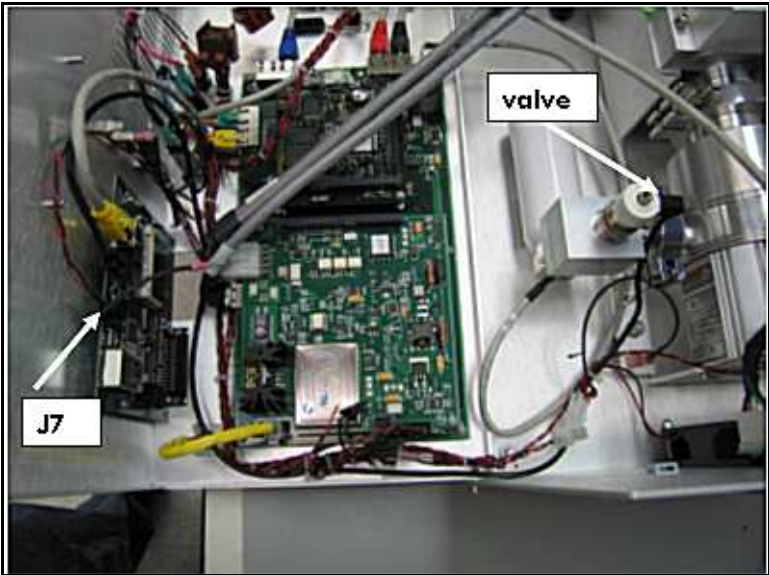
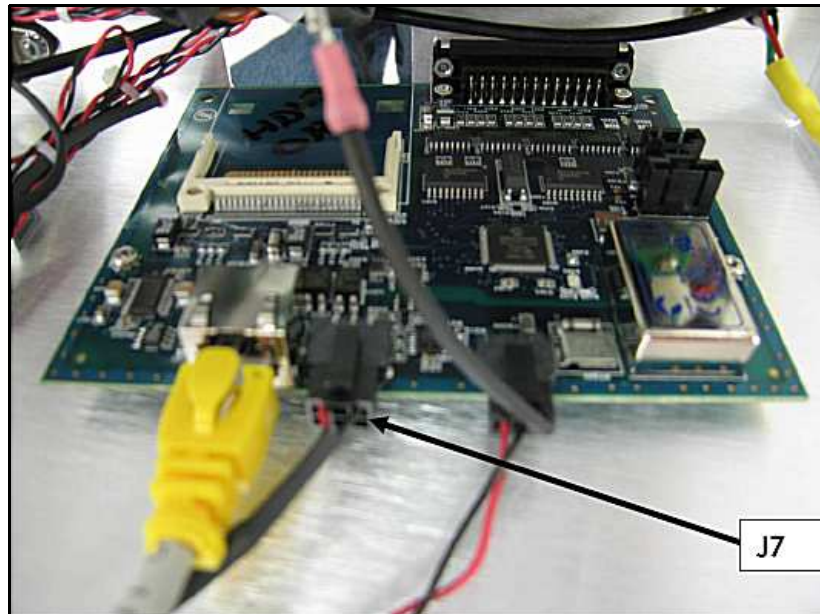

Figure 7: J7 Connector and Valve
Figure 8: J7 Connector on Discrete I/O Board
9. Install the valve control cable to the valve and route it to the discrete I/O board J7 connector (Figure 7: J7 Connector and Valve and Figure 8: J7 Connector on Discrete I/O Board).